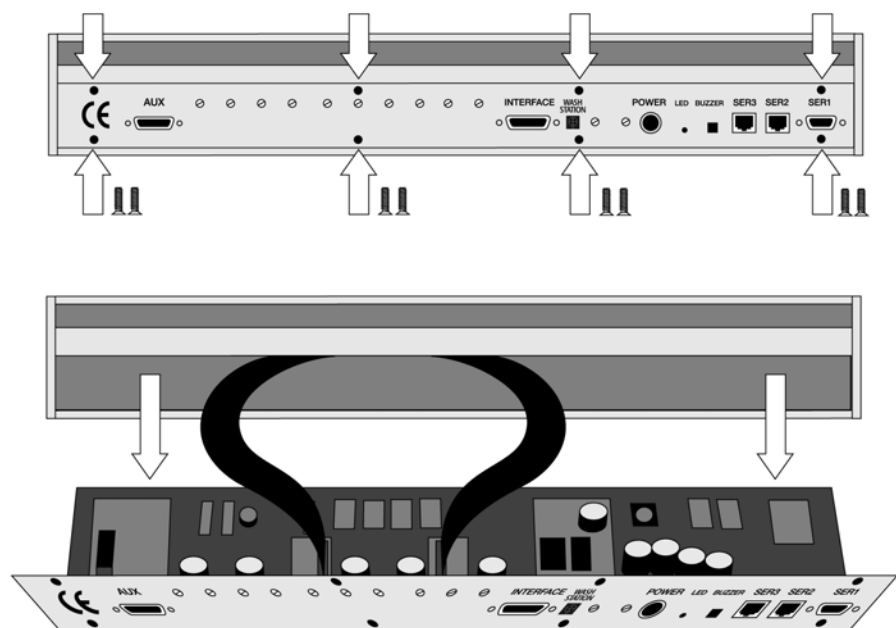

Figure 44. Replacing Control Board
- 1 Follow the sequence shown in Figure 44 to detach and release the Control board from its position inside the X Crossrail.